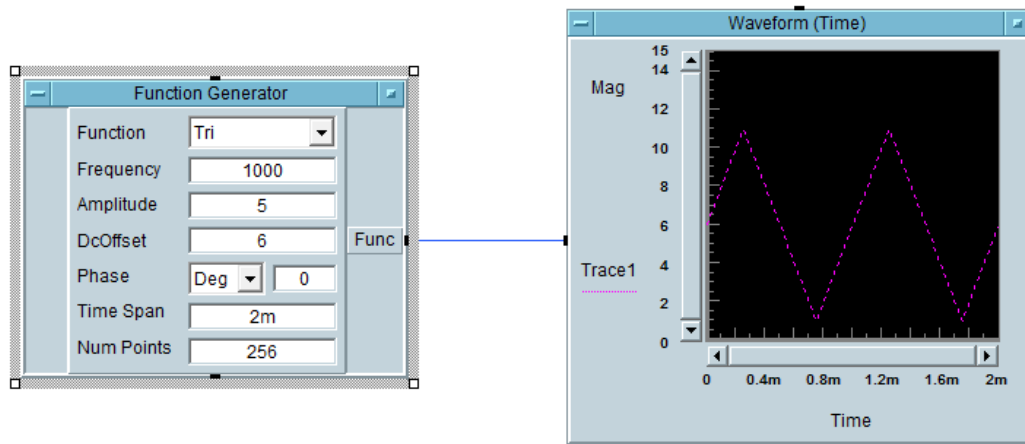

Fig. 7. Displaying a triangular waveform with magenta and dash Line
- Now, let's change the color and the line type of the displayed waveform to magenta and dash respectively by pressing **Trace1** on the Waveform object. Moreover, let's press **Mag** and change the minimum and maximum values to 0 and 15. The following figure in Fig. 7 is seen after these modifications.